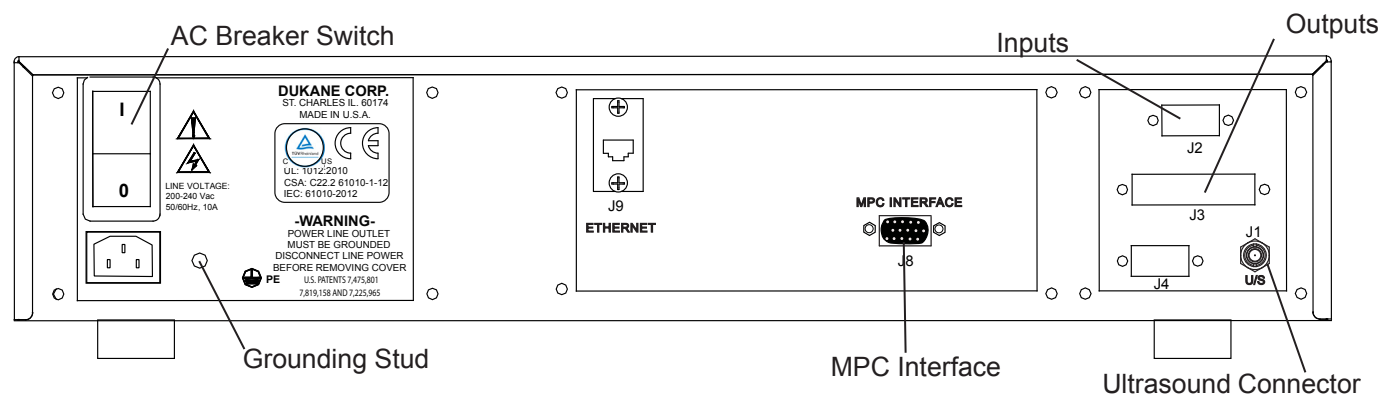

Figure 11-3 Generator Rear View - Optional MPC Model
- **MPC I/O** - MPC control/input signals and status output signals are carried in the I/O cables that should already be connected - See Inputs (J2) and Outputs (J3) in Figure 11-3.
- **MPC INTERFACE** - Attach one end of the MPC Interface cable (Dukane # 200-1408-XX) to the MPC INTERFACE connector on the *iQ* generator panel - MPC Interface in Figure 11-3. Connect the other end of the cable to the MPC INTERFACE connector on the right rear of the MPC module.